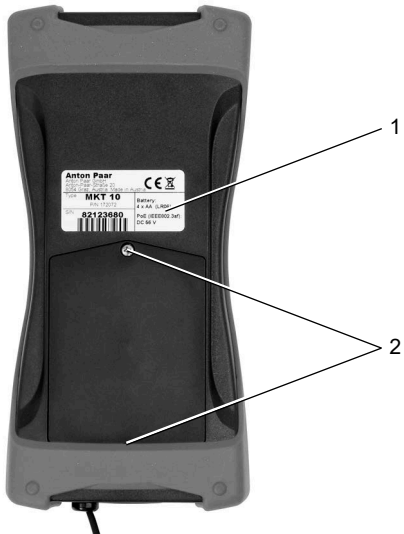

Fig. 2: Rear view of the instrument
1. With a Phillips screwdriver PH1, unscrew the two M3x6 screws holding the battery compartment lid (see fig. 2). For the bottom screw, you need to push aside the red housing seal.